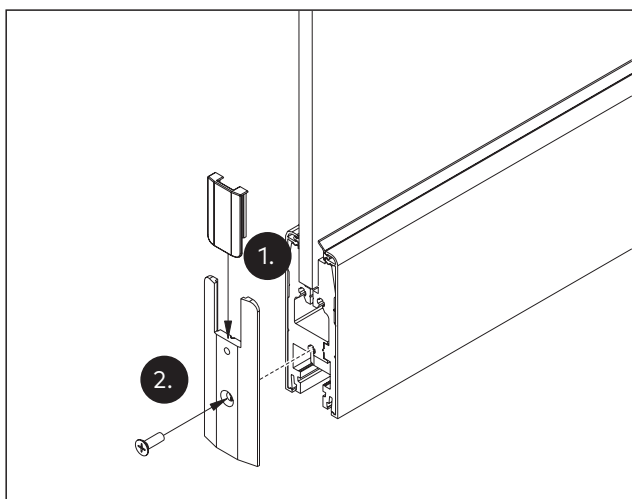

Fig. 40 Mounting the end cover
1. Attach the black plastic cap to the end cover (Fig. 40/1).
2. Use the screw to secure the entire end cover to the door rail (Fig. 40/2).